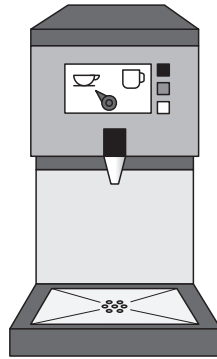

Figure Q2
2. The automatic hot-water dispenser shown in Figure Q2 is controlled by a microcontroller. It provides boiling water for making coffee or tea.